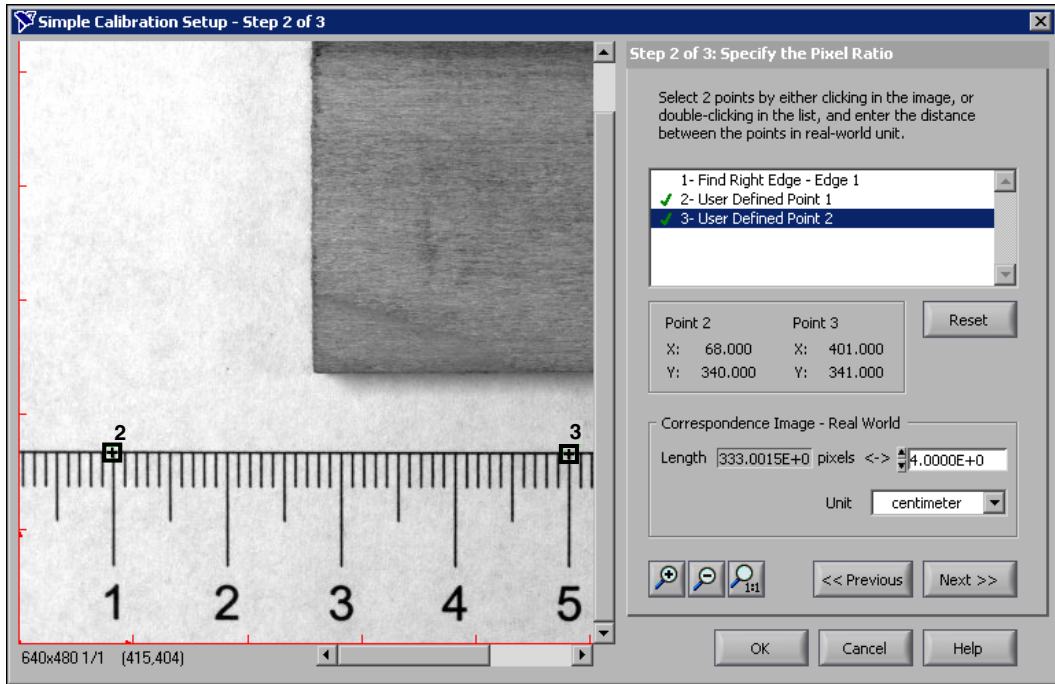

Figure 5-4. Defining Pixel to Real-World Ratio
8. In **Step 2 of 3**, carefully click the 1 cm and 5 cm markings on the ruler in the image, as shown in Figure 5-4.